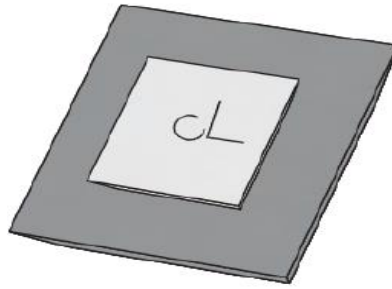

Fig 4.25: Patch antenna
- The patch antenna in Fig. 4.25 shows how simple these antennas can be. This is a simple rectangular patch built over a rectangular ground plane.